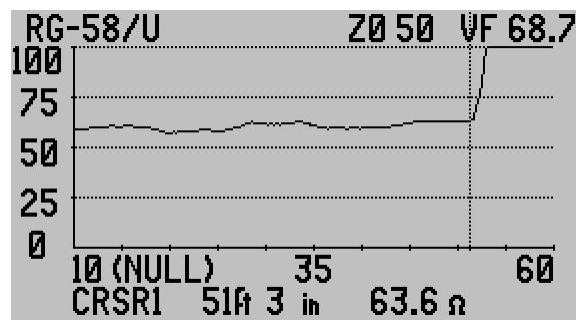

Figure 3-57
3. When Test Lead Null is on, the plot display will show the word (NULL) on the left side of the range scale after the start distance. See figure 3-57. The cable under test is a 51ft (15.5m) attached to a 7.5ft (2.3m) test lead that has been removed from the trace using Test Lead Null. Also missing from the trace is the first 10ft (3m) of the cable. However, the cursor marks the correct distance to the end of the cable.